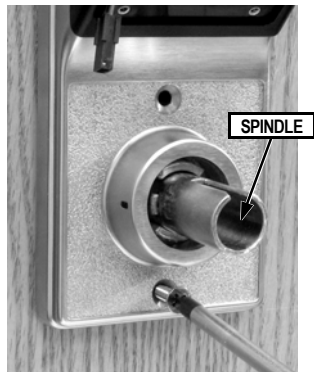

FIG. 15: TIGHTEN THRU-BOLTS
- Place inside housing over the spindle (see Fig. 15). Depress the lever catch (use a screwdriver pointed inside the spindle) and push housing flush against door. Be sure that all wires are through the housing before tightening the two 10-32 x 2 1/4" thru-bolts.